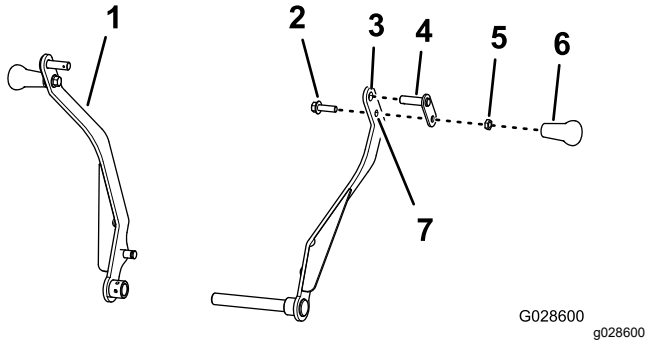

Figure 16
1. Assemble the pivot pin through the upper hole in the cradle arm (Figure 16).
3. Assemble the bolt (3/8 x 1-1/4 inch) through the lower hole in the cradle arm and the retainer of the pivot pin (Figure 16) with the jam nut (3/8 inch), and tighten the jam nut to 15 to 17 N·m (11 to 13 ft-lb).
4. Thread the handle onto the bolt (3/8 x 1-1/4 inch) and tighten the handle against the jam nut and tighten the handle by hand (Figure 16).
5. Repeat steps 1 through 4 to the other cradle arm (Figure 16).